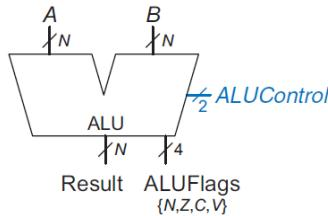
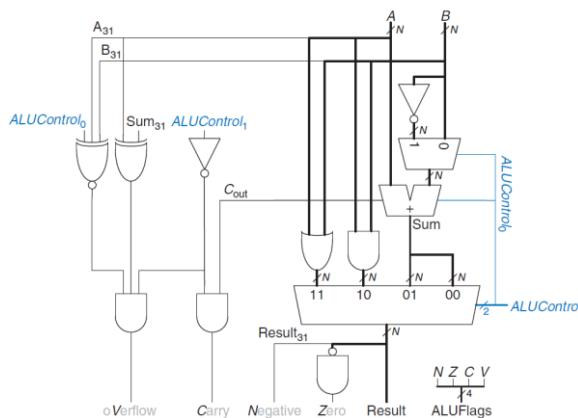

Figure 5.17 ALU symbol with output flags
Figure 5.18 N -bit ALU with output flags
Some ALUs produce extra outputs, called **flags**, that indicate information about the ALU output. Figure 5.17 shows the ALU symbol with a 4-bit **ALUFlags** output. As shown in the schematic of this ALU in Figure 5.18, the **ALUFlags** output is composed of the N , Z , C , and V flags that indicate, respectively, that the ALU output is **negative** or **zero** or that the adder produced a **carry out** or **overflowed**. Recall that the most significant bit of a two's complement number is 1 if it is negative and 0 otherwise. The Z flag is asserted when all of the bits of *Result* are 0. The C flag is asserted when the adder produces a carry out *and* the ALU is performing addition **or** subtraction. V (**signed** overflow) is asserted when **all** three of the following conditions are **true**: (1) the ALU is performing addition **or** subtraction, (2) A and Sum have **opposite** signs, (3) either A and B have the same sign and the adder is performing **addition** or A and B have opposite signs and the adder is performing **subtraction**.